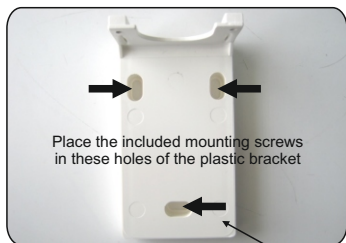
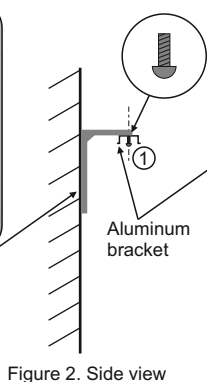

Figure 1
Figure 2. Side view
- ⑤ Install the included plastic bracket on the wall (Figure 1). Remove the aluminum bracket from the luminaire and use the two supplied mounting screws to install the aluminum bracket to the plastic bracket (Figure 2). Slide the luminaire to the aluminum bracket and use the bolt on the center (*), to stabilize the luminaire (Figure 3).